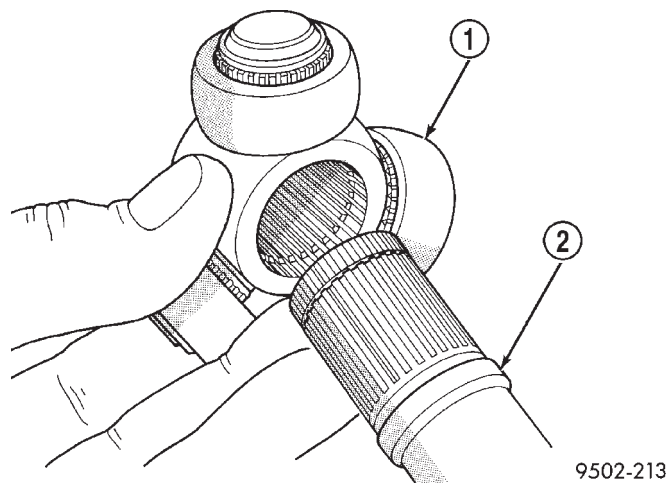
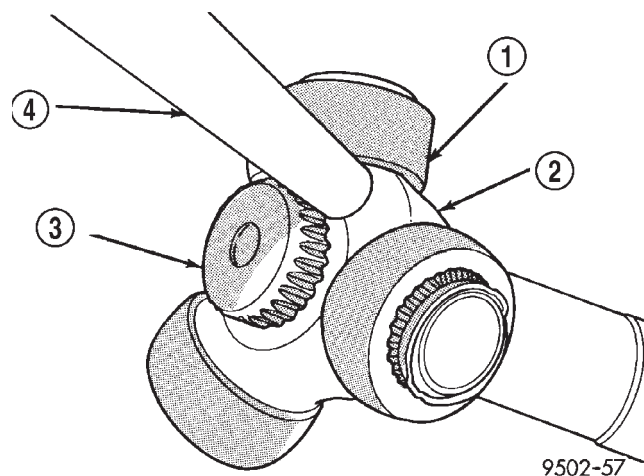

Fig. 30 Spider Assembly Installation on Interconnecting Shaft
Fig. 31 Installing Spider Assembly on Interconnecting Shaft
(2) Install spider assembly onto interconnecting shaft (Fig. 30). Spider assembly must be installed on interconnecting shaft far enough to fully install spider retaining snap ring. If spider assembly will not fully install on interconnecting shaft by hand, it can be installed by tapping the spider body with a brass drift (Fig. 31). **Do not hit the outer tripod bear-**